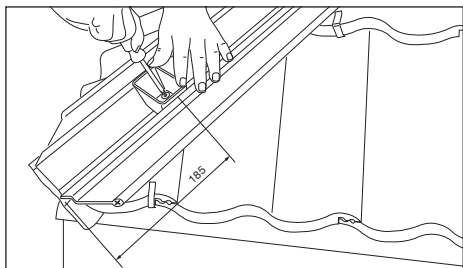

Fig. 8
- 10 Locate PVCu fixing/expansion blocks inside the dry hip batten section and fix to hip tree or rafter using the 75mm x 10g stainless steel drive screws (supplied in fixing kit) (Fig. 8).